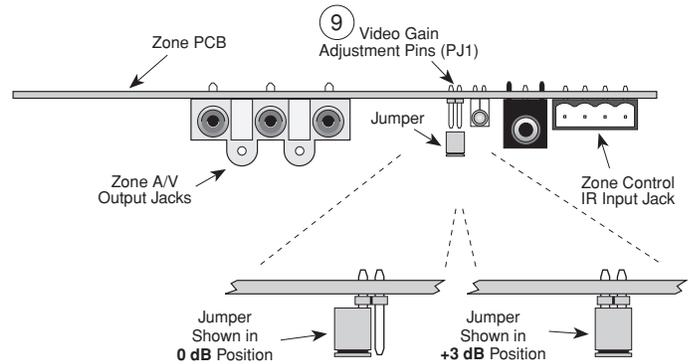

Fig. 3 Video Gain Adjustment - Jumper Locations
1. **ZONE IR INPUTS.** Each zone of the EXP9 is individually controlled through these ports. As with the ZPR68-10, three of the four screw terminals on each plug-in connector are for connection, via the standard Xantech 3-wire bus, to any Xantech IR receiver, keypad (except Model 598), or controller. The remaining terminal, STATUS, provides a control output of +12 volts that turns on and off with a zone INPUT (ON) and OFF commands to drive status indicators and/or the voltage sensing ports of power amplifiers or AC power strips. The connector markings are defined as follows: **+12 V**, **GND**, **STATUS** and **IR IN**.
9. **Video Gain Adjustment Jumpers** (Internal. Refer to **Fig. 3**). As with the ZPR68-10, the video gain of each zone on the EXP9 can be set to two levels, by the use of an internal jumper. With the jumper on one pin only of PJ1, the video gain is unity (0 dB). When the jumper is inserted onto both pins of PJ1, the video gain is increased by +3 dB.